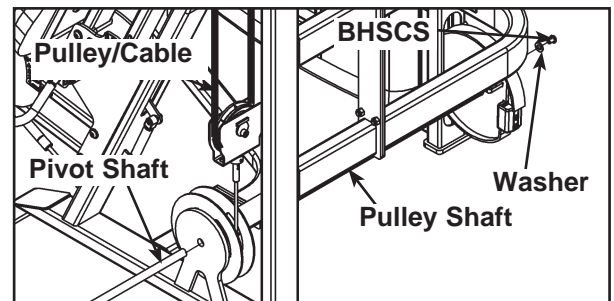

Figure 3
H. Remove one of the two BHSCS (Button Head Socket Cap Screws) securing the pivot shaft. See Figure 3.
I. Carefully remove pivot shaft and pulley shaft. See Figure 3. **NOTE:** Be extremely careful when removing shaft so you don't ruin the threads on the shaft.
M. Carefully attach pulley shaft using the pivot shaft and BHSCS removed in steps 4H and 4I. See Figure 3.